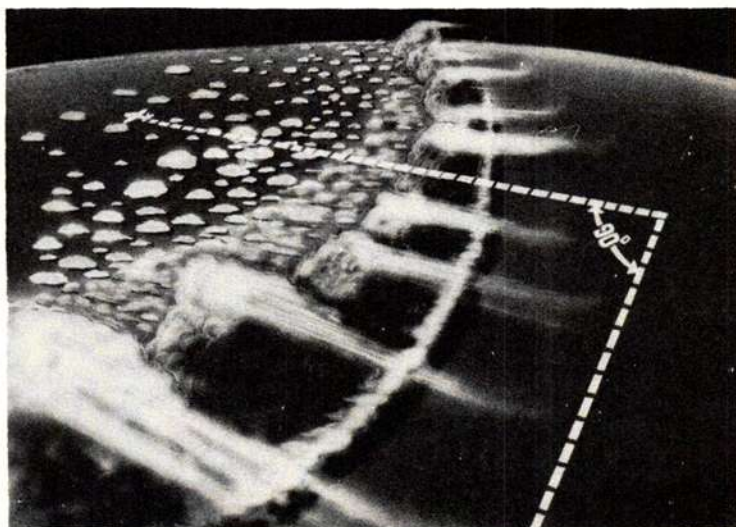

Figure 4-5-2. Correct flight path through a cold front.
(1) Fly through the front at a 90-degree angle to the line of the storm. (See fig 4-5-2.)